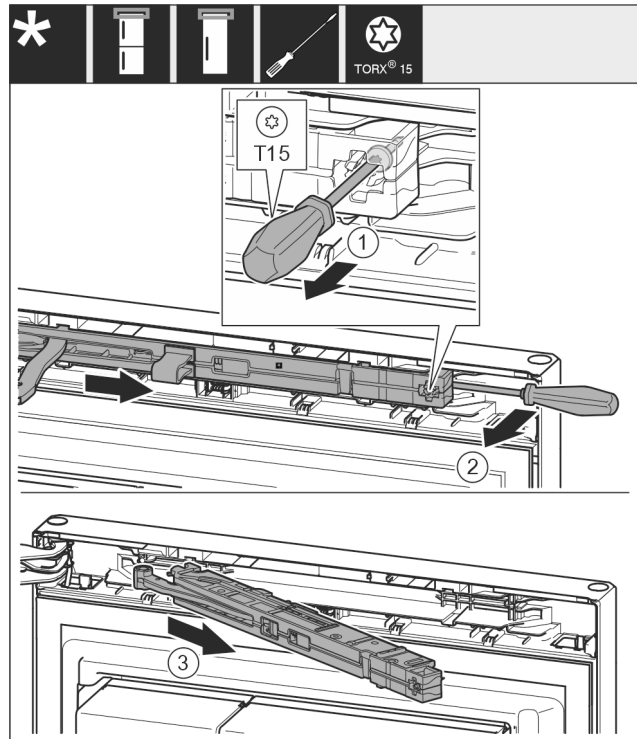

Fig. 13
- ▶ Loosen the screw Fig. 13 (1) on the closing damper unit with a 14 mm (9/16 in) screwdriver.
- ▶ Use the screwdriver to lift out the closing damper unit Fig. 13 (2) on the handle side.
- ▶ Pull out the closing damper unit Fig. 13 (3).